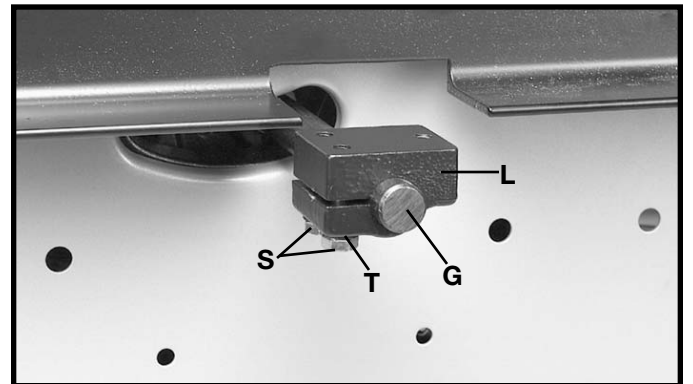

Fig. 19
7. Assemble lower bracket (L) Fig. 19, to rod (G) and hand tighten the 2 one inch-long hex head screws (S) and lockwashers (T), from underneath bracket (L).